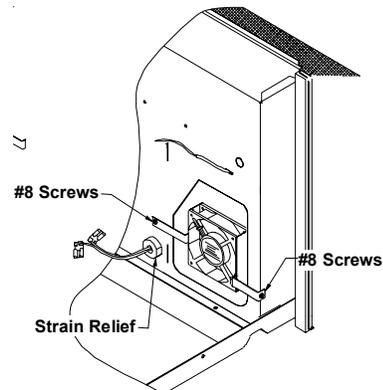

Figure 7
9. Position the vent fan into the vent opening while pulling the vent fan wires through the wire hole to take up the slack in the wires (Figure 7).